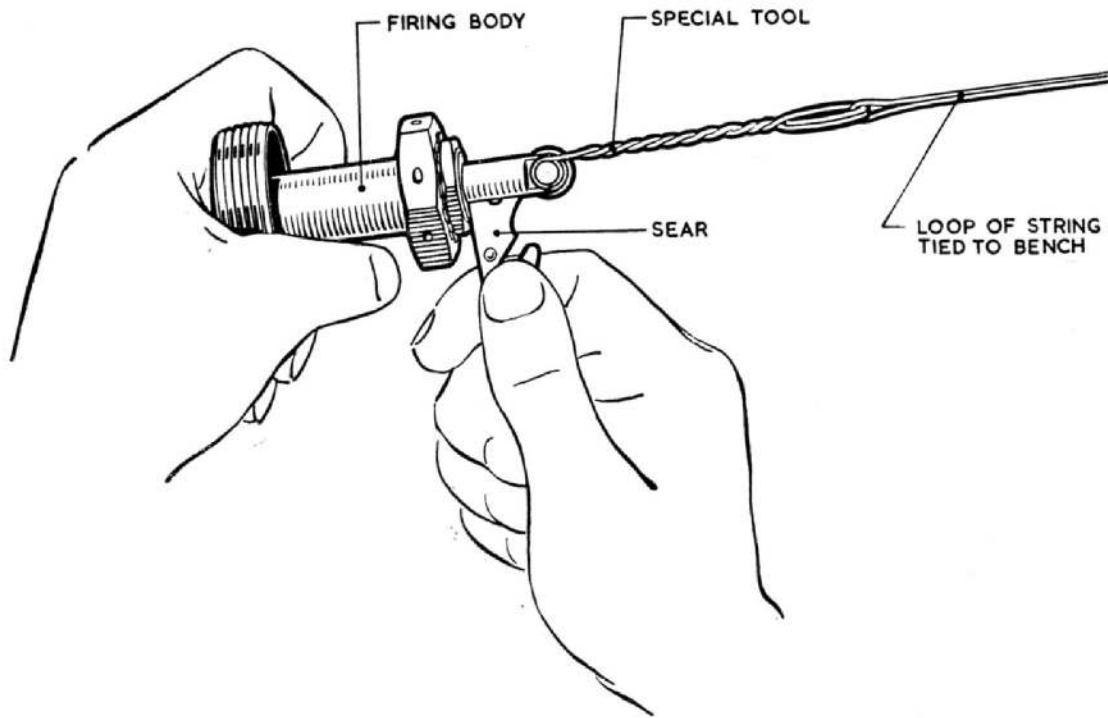
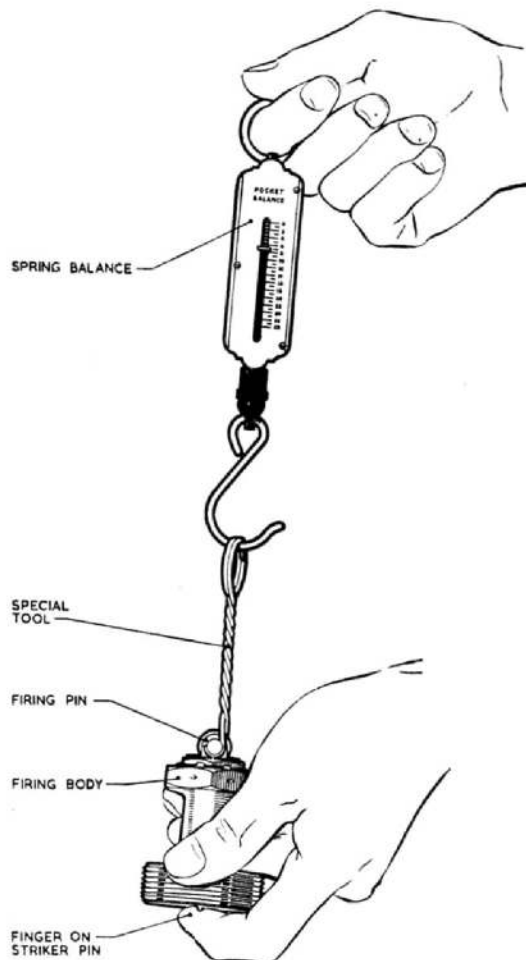

Fig. 8. Lifting firing pin with special tool
Fig. 9. Testing firing spring
- (2) Remove the firing pin from the firing body. Using kerosine, wash any traces of grease from the firing pin and the interior of the firing body, then lightly lubricate with oil OM-13 (Stores Ref. 34B/43). Assemble the firing pin in the firing body.
- (3) Lift the firing pin with the special tool (*fig. 8*) and check that the firing sear moves freely in the slot, and that the firing pin moves freely throughout its stroke. Remove the sear and check the initial compression of the firing spring by spring balance as shown in *fig. 9*. The firing pin should not start to move until 7 lb. is registered. The initial movement of the firing pin can be detected by holding the finger over the projecting end of the striker pin.
- (4) If the action of the firing pin when checked as described in sub-para. (3) is unsatisfactory, the retaining nut should be unscrewed with a $\frac{3}{8}$ in. box spanner, after the tab of the brass locking washer is bent down, and the firing pin assembly should be renewed complete with a new locking washer. Ensure that the locking washer tab already bent down engages the slot in the top of the firing body, and after the retaining nut has been firmly screwed down, one of the other tabs should be bent up to lock it.
- (5) Repeat the checks described in sub-para. (3)